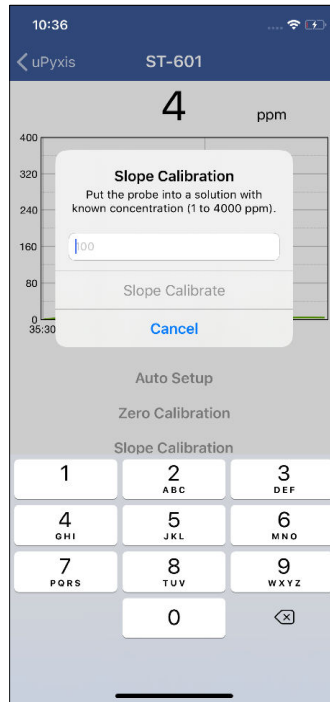

Figure 9.
2. Enter the CLO2 concentration in the dialog window as in (figure 9). For the best result, the CLO2 standard concentration should be in the range of 1,000ppm to 3,000ppm for the ST-601 probe.